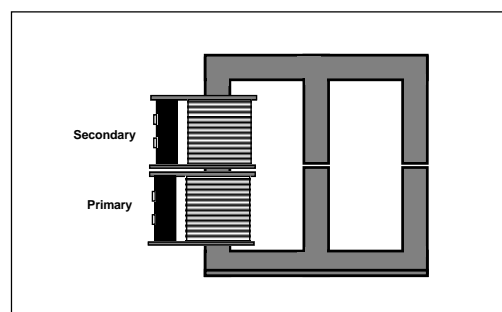

Figure 3
7. If you have the SF-8617 Complete Coils Set, arrange the primary and secondary coils as shown in Figure 3. Run the same set of experiments you did in steps 2-4, collecting the same items of data.